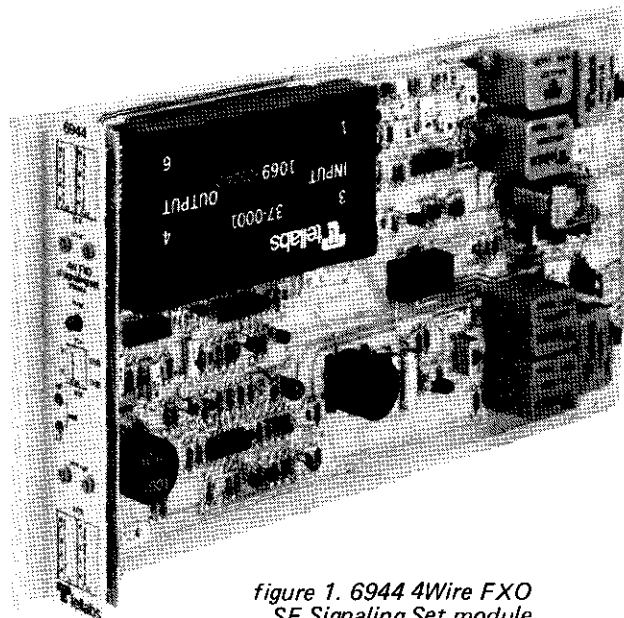

figure 1. 6944 4Wire FXO SF Signaling Set module
1.01 The Tellabs 6944 4Wire Foreign-Exchange Office-End (FXO) SF Signaling Set module (figure 1) provides signaling and transmission interface between a 4wire transmission facility and the office end of a metallic 4wire foreign-exchange (FX) or off-premise-extension (OPX) signaling link. Specifically, the 6944 provides single-frequency (SF) signaling over the 4wire facility, conversion between that SF signaling and the loop signaling used at the office end of an FX or OPX circuit, and extension of this loop signaling toward the 4wire termination (a CO or PBX line circuit). Level coordination in both the transmit and receive paths is provided by means of adjustable precision attenuators. Conventional 2600Hz SF tone is standard. Other frequencies are optionally available.